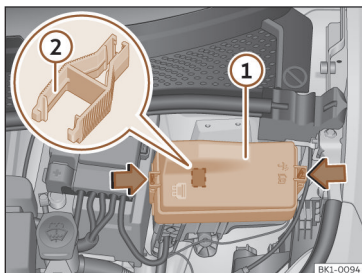

Fig. 192 In the front compartment: fuse box cover.
- Press the locking tabs to unlock the fuse box cover >>> **Fig. 192 ①**.
In the fuse box there may be plastic tweezers for removing fuses >>> **Fig. 192 ②**.